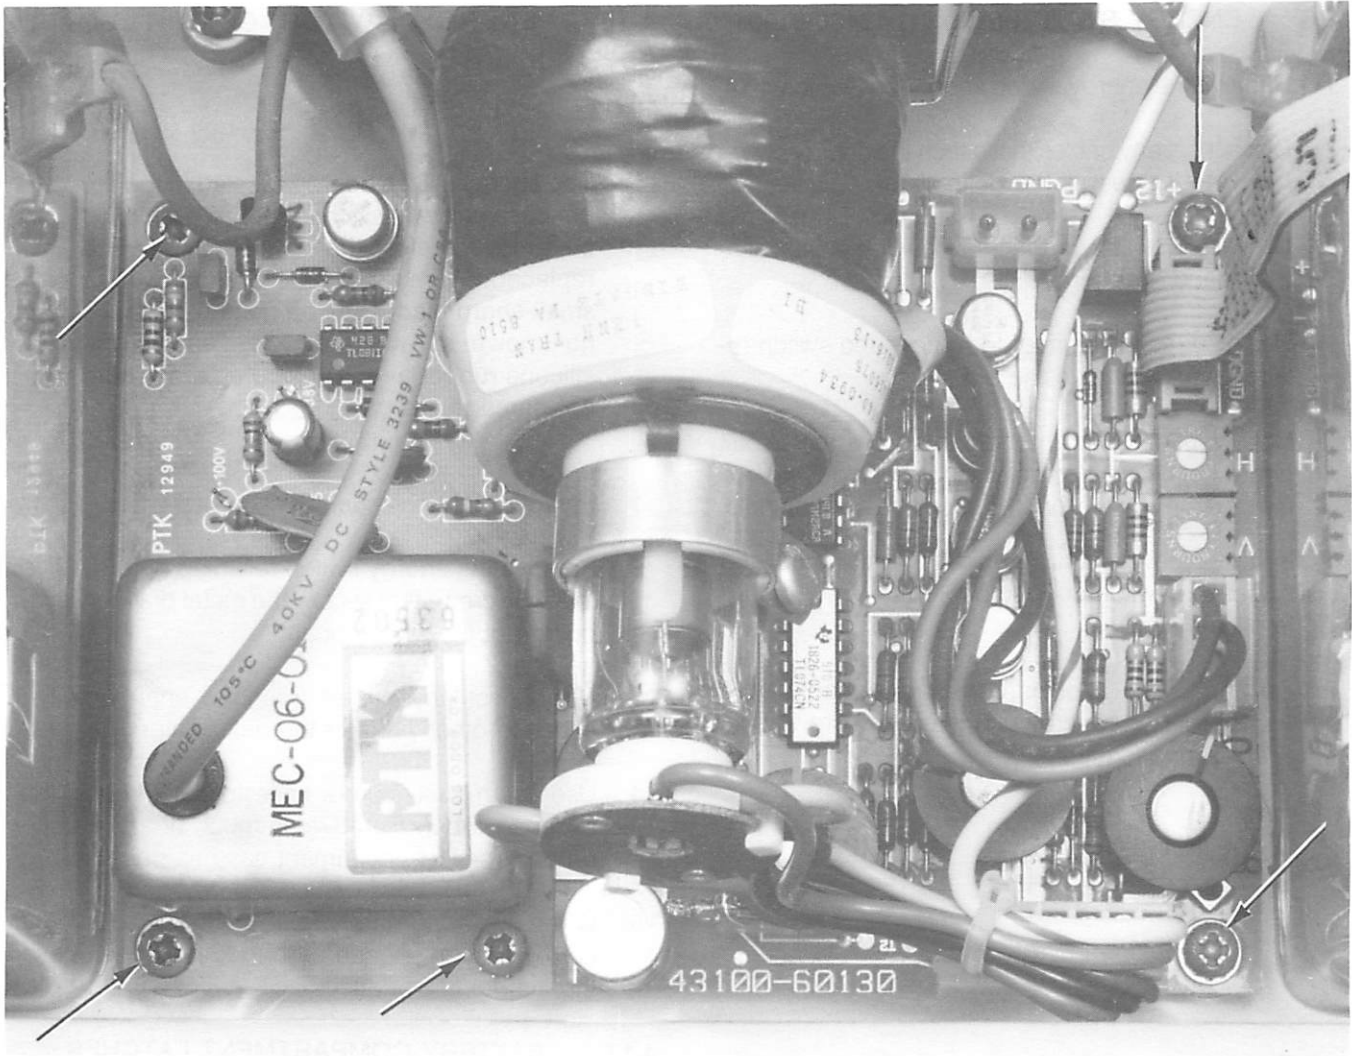

Figure 4-11.
5. Remove the five screws indicated by the arrows. See Figure 4-11.